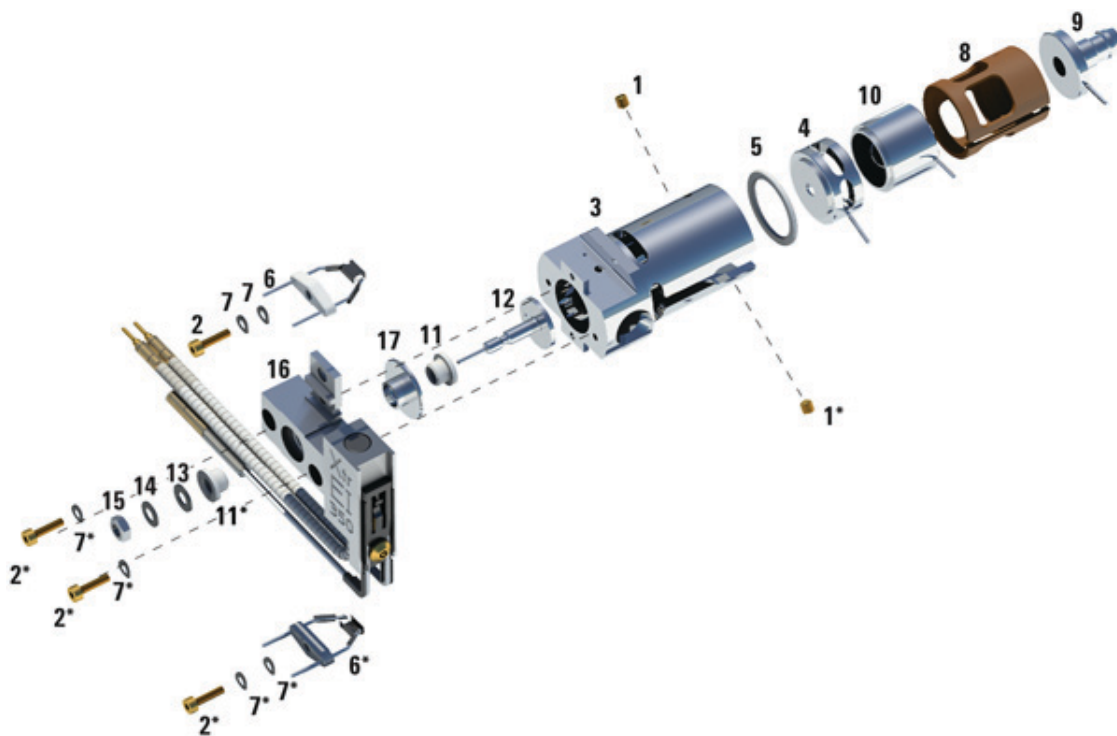

Figure 65. Disassembling the EI XTR source
Refer to the exploded parts view **Figure 65** and the EI EXT parts list **Table 21** on page 202 while using this procedure.
**Table 21** Parts list for EI XTR source (Figure 65)
**Table 21** Parts list for EI XTR source (Figure 65) (continued)